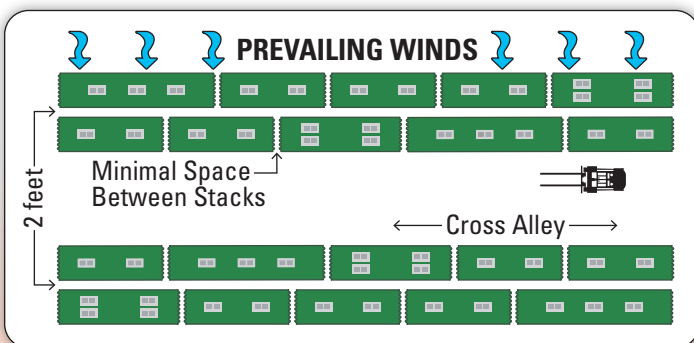

Figure 3: Yard layout showing prevailing wind and optimal lumber stack positioning.
- Use winds by placing lumber stacks perpendicular to the prevailing wind direction (Figure 3).